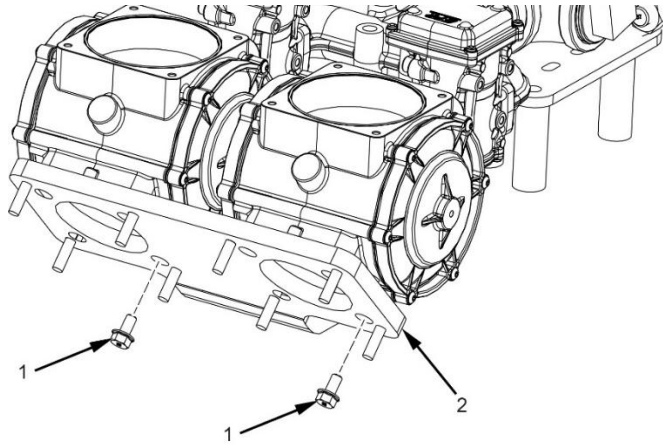

Figure 28. DEPR Bracket Assembly
4. Remove eight bolts (Figure 28, Item 1) from dual mixer bracket (Figure 28, Item 2).
7. Install eight bolts (Figure 28, Item 1) to dual DEPR bracket (Figure 28, Item 2).